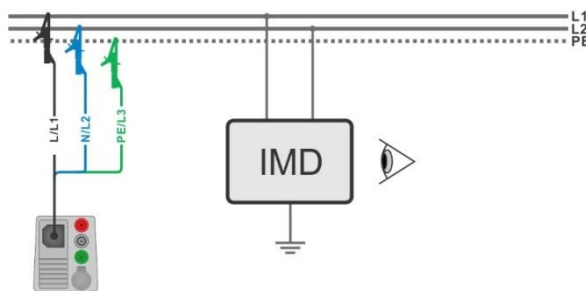

Figure 7.138: AUTO IT measurement
- › Connect 3-wire test lead to the object under test, see **Figure 7.138**.